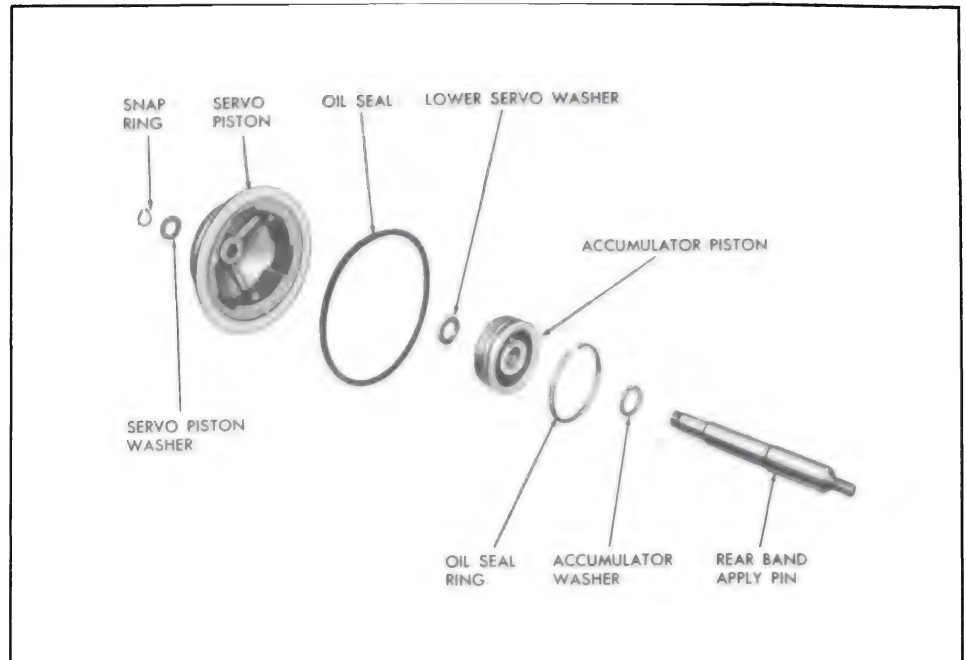

Figure 5-573
2. Remove servo piston and washer from band apply pin. See Figure 5-573.